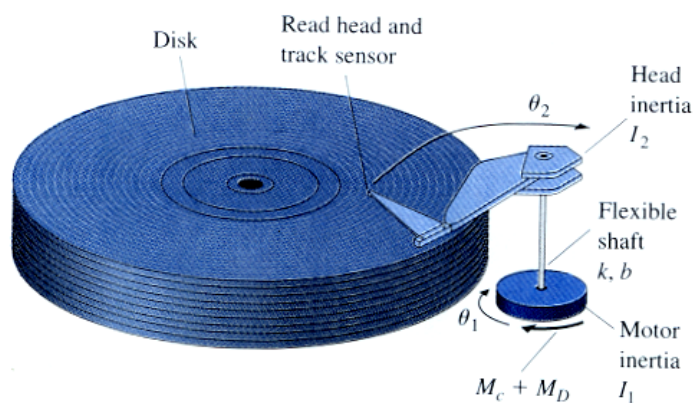

Figure 1 Flexible read/write disk drive head
3. Figure 1 shows a flexible read/write head of a disk drive. M_c is the motor torque and M_D is the disturbance torque. Discuss the problems associated with the control of such disk drive. What are the desired performance specifications for the disk drive?